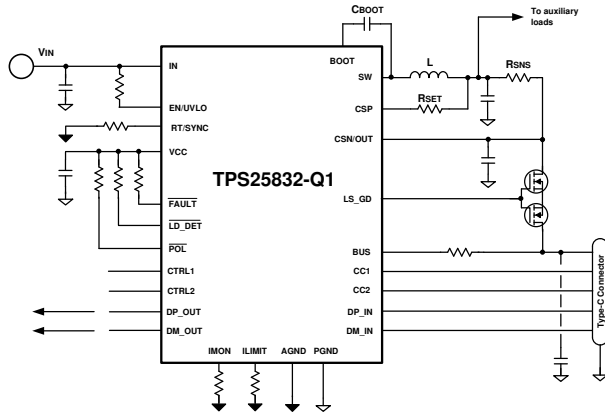
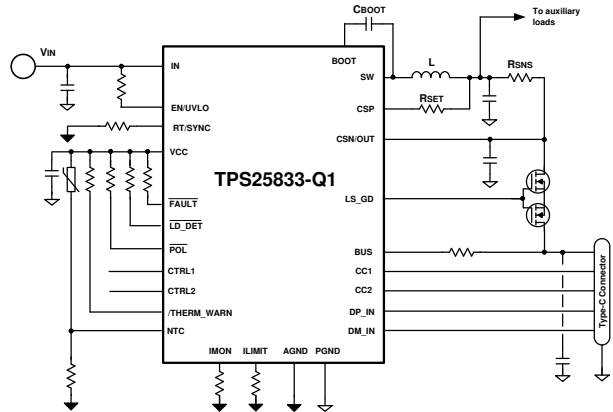

图 10-16. TPS25832-Q1 Current Limit with External MOSFET
图 10-17. TPS25833-Q1 Current Limit with External MOSFET
- With external MOSFET 图 10-16, 图 10-17:
The TPS2583x-Q1 has integrated NFET gate drivers, and can support current limit with external NFET. Refer to 图 10-16.